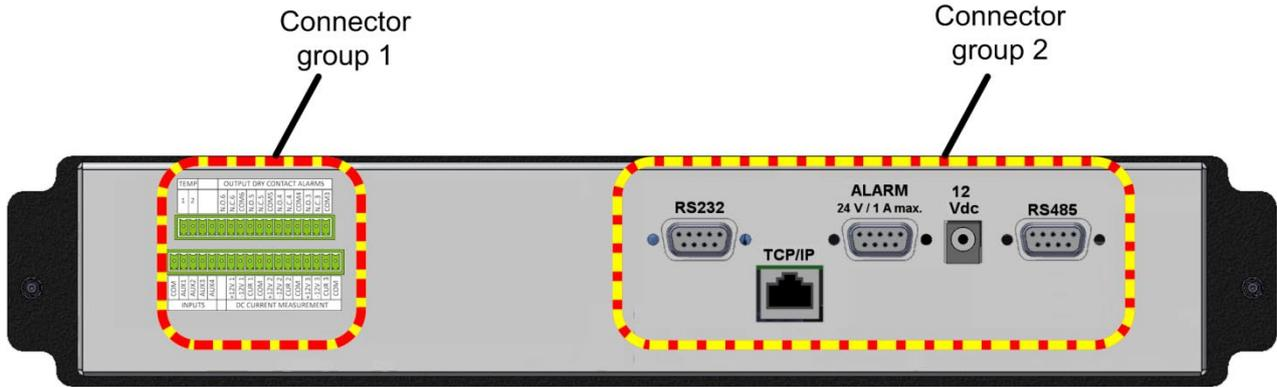
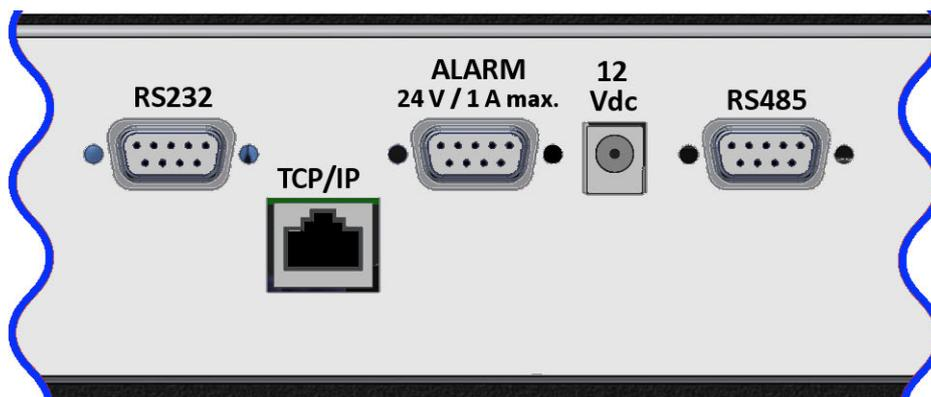

Figure 32: Location of minor connectors on the controller’s rear panel
Figure 36: Connector group 2
Connector groups 1 and 2 are located on the rear panel of the controller module. The controller module is the Centric’s top-most removable module. The location of connector groups 1 and 2 is shown in Figure 32, and close-up views of the connectors are shown further on in the text where relevant.
The connection point for the EPO switch is a two-pin connector on the lower rear of the system (connector group 3). See Figure 32, and item 1 in Figure 36. The EPO switch must be an N.O.-type, rated for at least 24 Vdc, 1 A. Be sure to perform a continuity test on the EPO switch before connecting it to the UPS.
The battery circuit breaker trip coil dry contact is located on the rear of the **Centric** controller, in connector group 3 (see Figure 32), to the right of the EPO connector (see item 2 in Figure 36). It is labeled "Battery CB trip coil". The dry contact is "normally opened" (N.O.), and has two pins. The contact is voltage free; it can accept up to 250 Vdc 2 A.